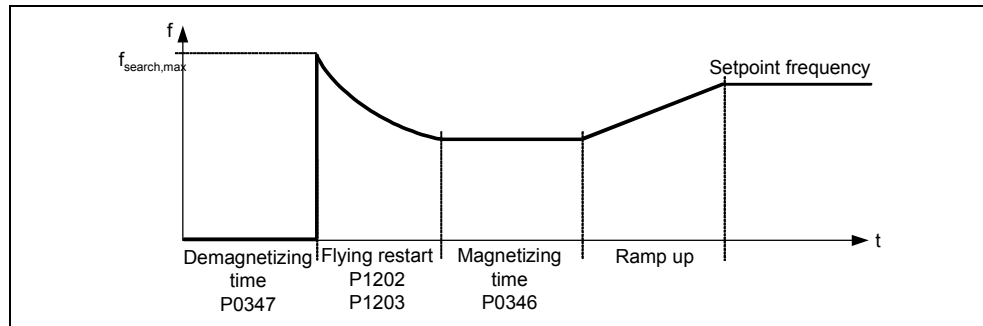

Fig. 3-60 Flying restart
- a) Depending on parameter P1200, after the de-magnetizing time has expired P0347, flying restart is started with the maximum search frequency  $f_{\text{search,max}}$  (refer to Fig. 3-60).
The search frequency is reduced, as a function of the DC link current with the search rate which is calculated from parameter P1203. In so doing, the parameterizable search current P1202 is impressed. If the search frequency is close to the rotor frequency, the DC link current suddenly changes because the flux in the motor establishes itself. Once this state has been reached, the search frequency is kept constant and the output voltage is changed to the voltage value of the V/f characteristic with the magnetizing time P0346 (refer to Fig. 3-60).